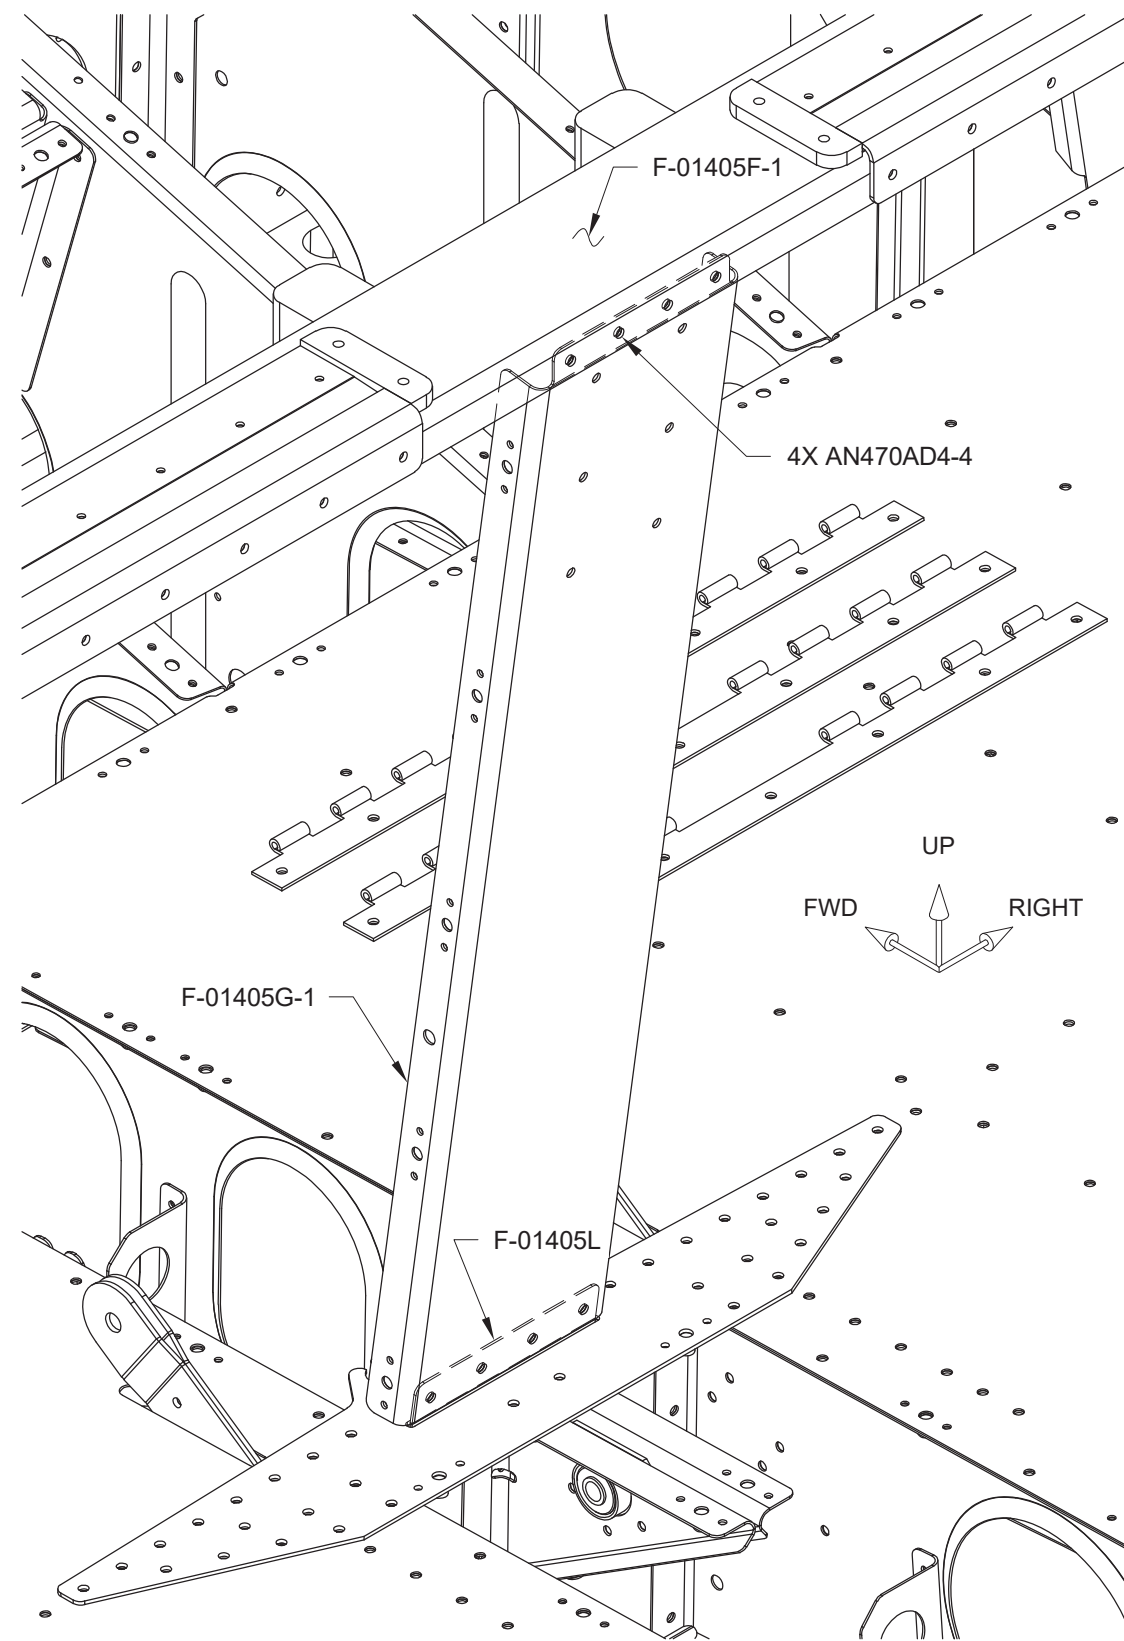

FIGURE 1: INSTALL FLAP MOTOR CHANNEL
Step 1: Rivet the upper flange of the F-01405G-1 Flap Motor Channel to the F-01405F-1 Mid Fuse Brace as shown in Figure 1.